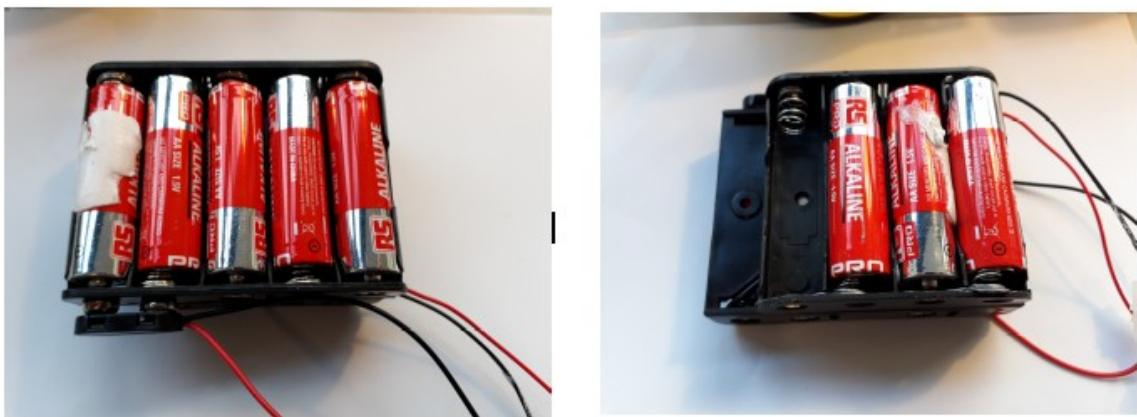

Figure 12: Filling the battery holder with batteries. [Note one battery has been left out. This is because we don't want the buggy to start working yet!]
Step 11: You should have a big pack of AA batteries in your kit, find 8 of them, and fill up the x5 battery holder with them, and x3 slots in the x4 battery holder. As shown in figure 12. **NOTE: WE ARE INTENTIONAL NOT FILLING THE x4 BATTERY HOLDER FULLY, AS WE DO NOT YET WANT TO POWER THE BUGGY. ONCE YOU HAVE WIRED UP THE BUGGY, GET A DEMONSTRATOR TO CHECK THE WIRING. THEN PUT IN THE FINAL BATTERY. :)**
Step 1: In this section, you will be wiring up each system of the buggy individually according to a series of wiring diagrams. Most of the wiring will be based on using an electronic breadboard as shown in figure 18. Breadboards allow you to quickly and easily build circuits by placing wires and components into the holes in the board. Each hole in the breadboard is also electrically connected to a series of other holes (as shown by the red lines in figure 12).